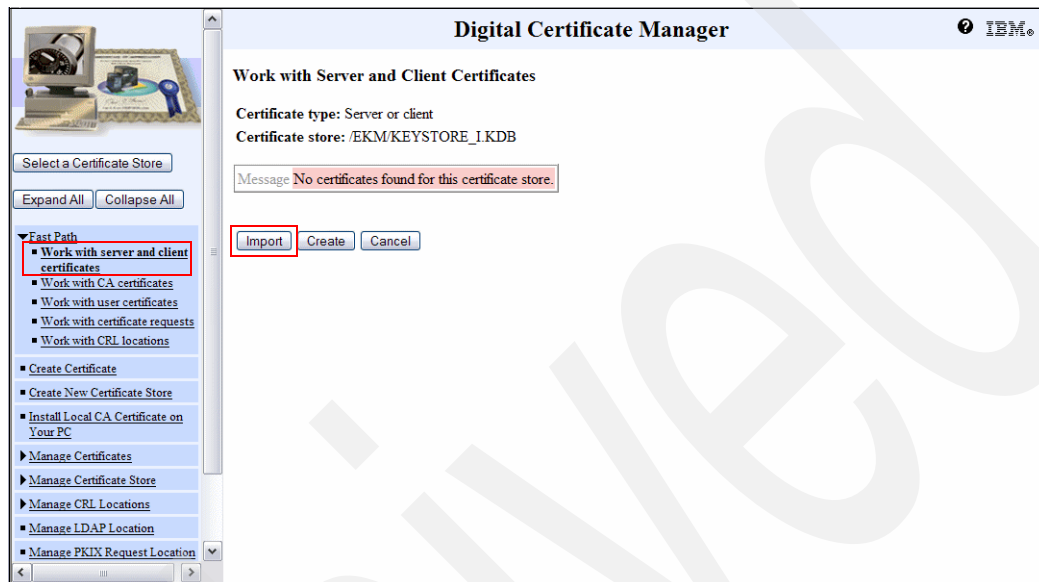

Figure 6-54 Importing the signed certificate
1. Import the signed certificate into your keystore. You can use this method to import keys from another keystore. Click **Work with server and client certificates**, verify that the Certificate store is correct, and click **Import**, as shown in Figure 6-54.